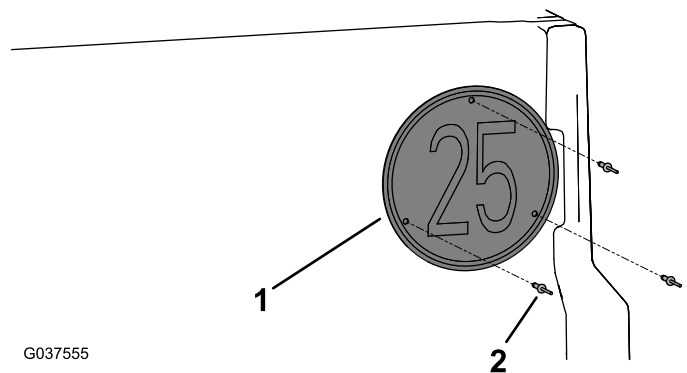

Figure 15
4. Install the speed plate to the tailgate using 3 pop rivets (3/16 x 0.92 inch) as shown in Figure 15.